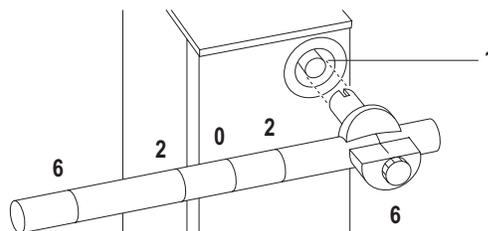

Fig. 12: Check e.g. at measuring drum setting 6
Holder and weight are then fitted over the axis of the tonometer (1) so that the longer part of the weight points towards the examiner (Fig. 12).
Turn the weight bar to scale calibration 6, the longer part shows in the direction of the examiner (fig. 12).